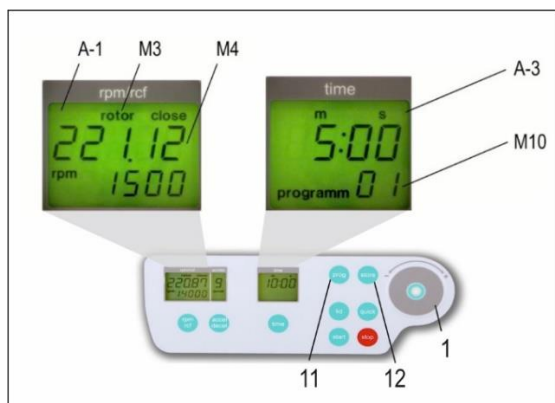

Figure 26
Put the desired rotor into the centrifuge. By pressing the key, "prog" (11), in the display "time" (A-3) appears the word "program", (see Figure 26). With the control field (1), choose the desired program number.
If a program number is already occupied, in the display "rpm/rcf" (A-1), the words "rotor" (M3) and "22x.xx" (M4) will appear, (see Figure 26). Free program numbers will appear as 0.
For all number marked text, please refer to Figure 26.